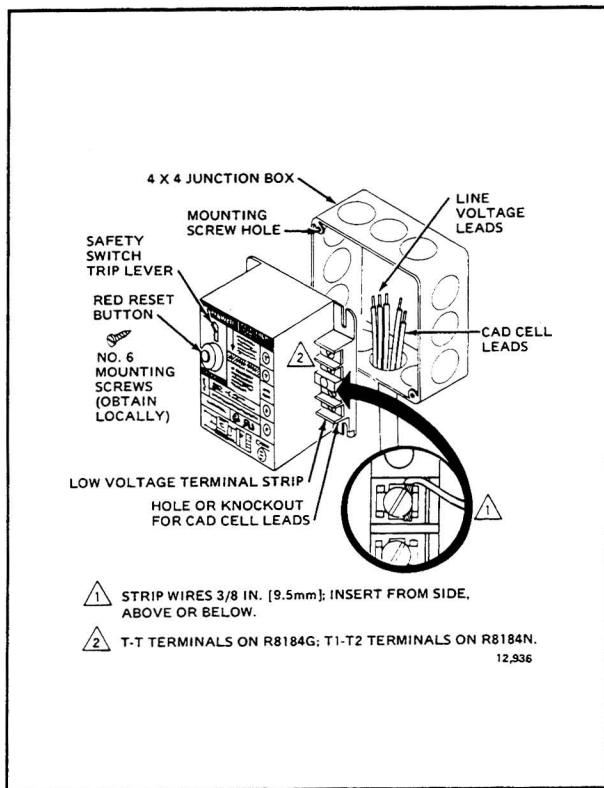
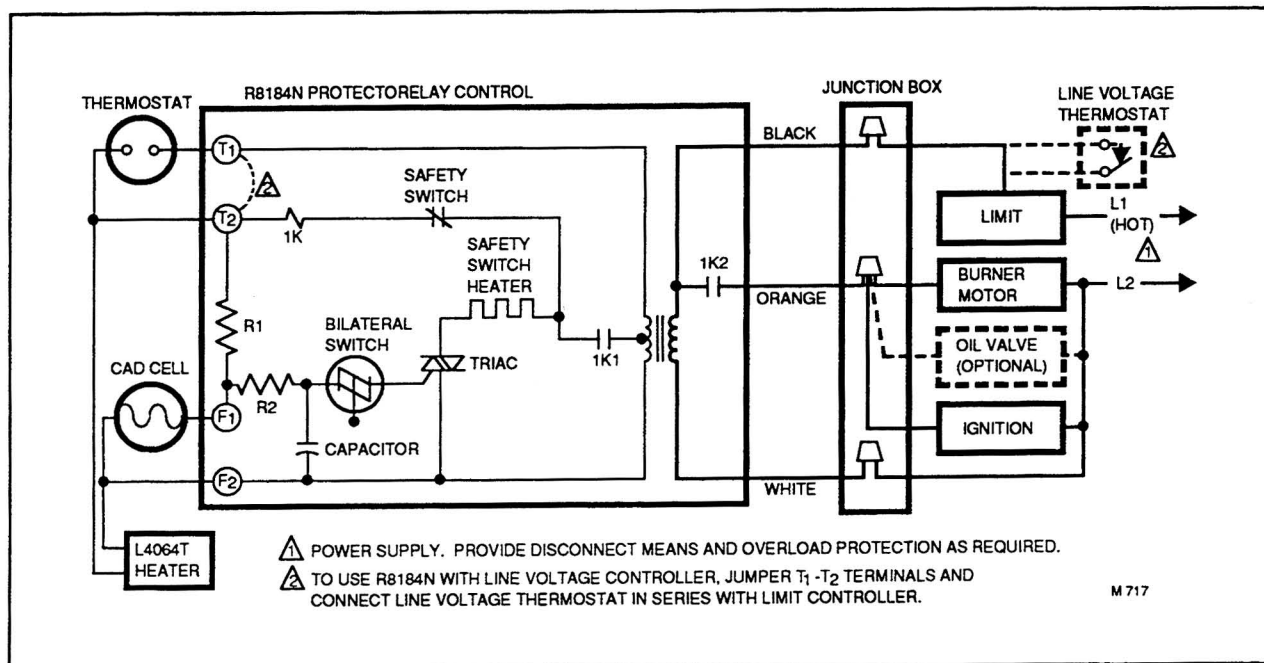

FIG. 3—MOUNTING CONTROLS WITH 130° F [59° C] MAXIMUM AMBIENT TEMPERATURE.
FIG. 8—TYPICAL HOOKUP FOR R8184N.
**ACCESSORY:** Part No. 128732 Terminal Cover (see Fig. 3).
After mounting, make low voltage connections to the screw terminals. Strip leads 3/8 in. [10 mm] and insert under terminal screw. See Fig. 3 or 4. For R8184G, connect cad cell leads to F-F terminals and thermostat leads to T-T terminals. Refer to Fig. 6. For R8184N, connect cad cell leads to F1-F2 terminals, thermostat leads to T1-T2 terminals, and heater to T2-F2 terminals. Refer to Fig. 8.